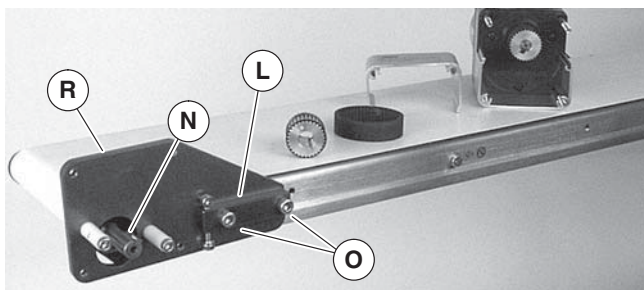

Figure 5
4. Remove two (2) top screws (Q) and remove top cover (K).
5. Attach mounting bracket (Figure 5, item R) and tensioner bar (L) with screws (O). Hand-tighten screws (O).
6. Install key (Figure 5, item N).